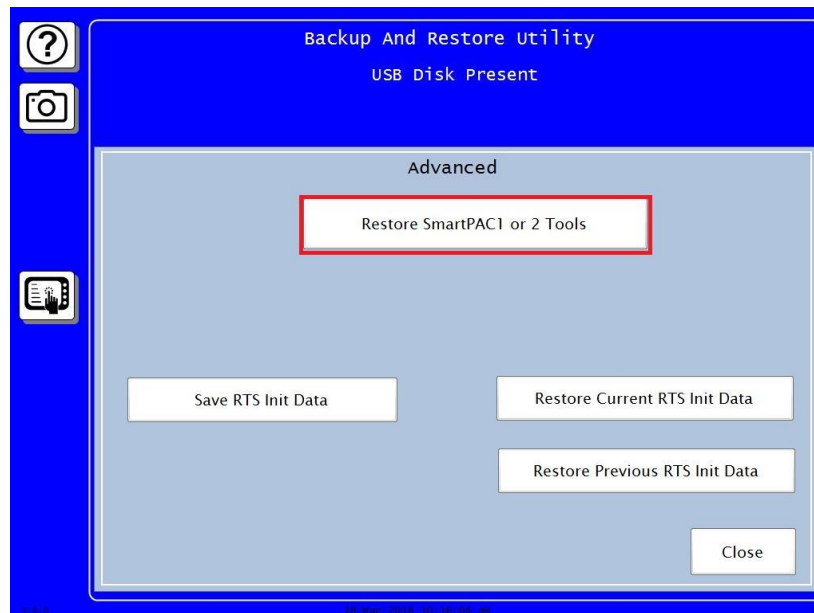

Figure 6 - Backup and Restore Utility Restore SmartPAC 1 or 2 Tools button
7. Press the Restore SmartPAC 1 or 2 Tools button (Figure 6 below)